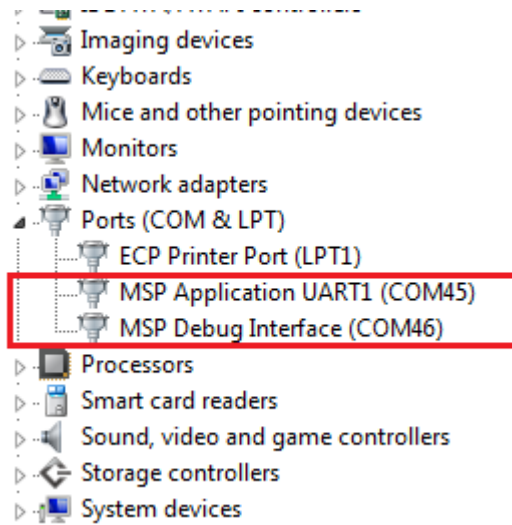

Figure 5. MSP Debug Interface Connection
2. Mount and connect the CC3100 BoosterPack with MSP430F5529 Launchpad (see Section 3.4). The Windows PC should recognize it as 'MSP Debug Interface' (see Figure 5).